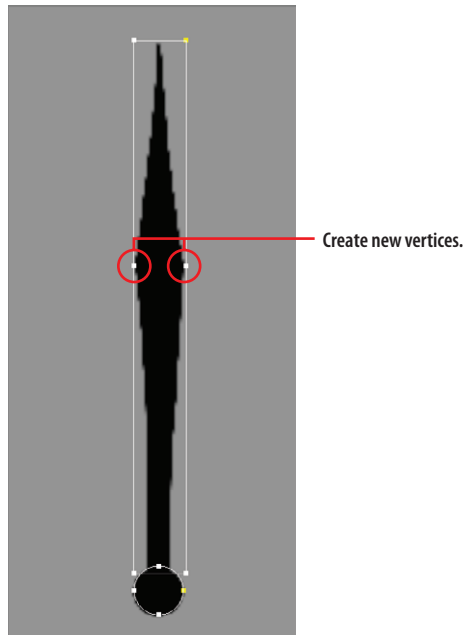

FIGURE 2.37 Use Refine to add two vertices to the right and left sides of the rectangle.
5. In the Geometry rollout, select Refine and click on each side of the rectangle in the middle, as shown in Figure 2.37.